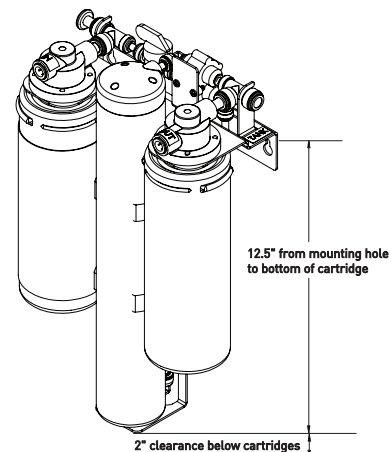

Figure 4
2. When mounting the ROM IV RO System, two (2) screws are required to mount the head. Measure up from the floor of the cabinet 15.5" (39.4 cm). See Figure 4. This will provide clearance to change the cartridges. The two (2) screws will be 14" (35.6) apart and level. Screw the two (2) screws into the wall. Leave a gap between the screw head and the wall of 1/8". The backside of the system head has two (2) slots that will fit over the screw heads and slide down to lock.